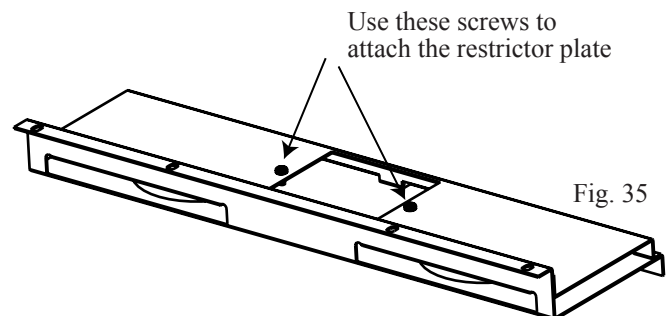
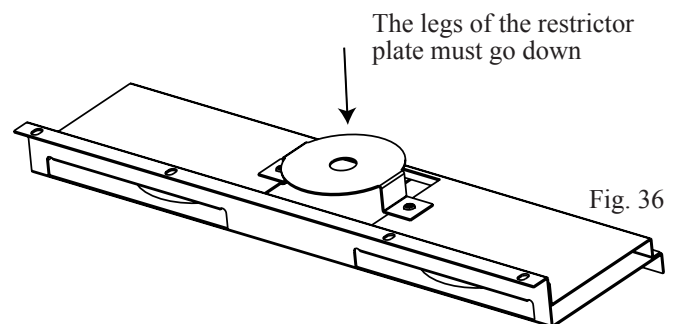

Fig. 35
Fig. 36
4. Remove the two (2) screws from the top face of the baffle assembly, Fig. 35. Place the restrictor plate as shown in Fig. 36 and secure by refitting the screws.